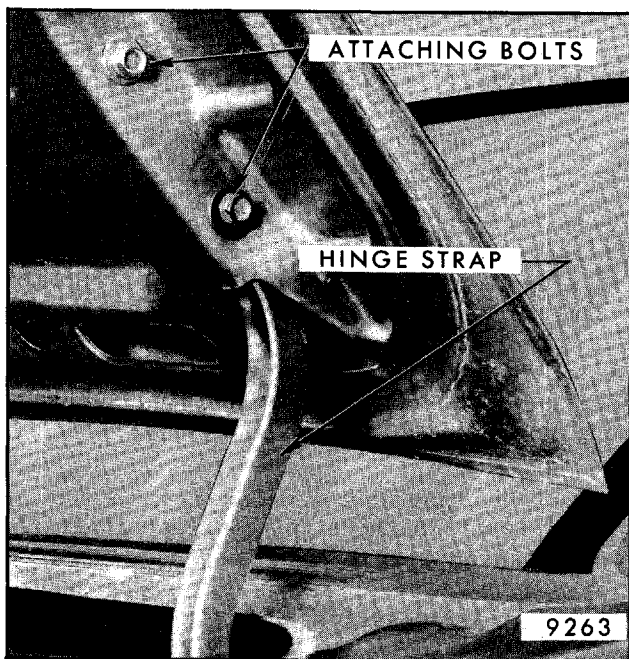
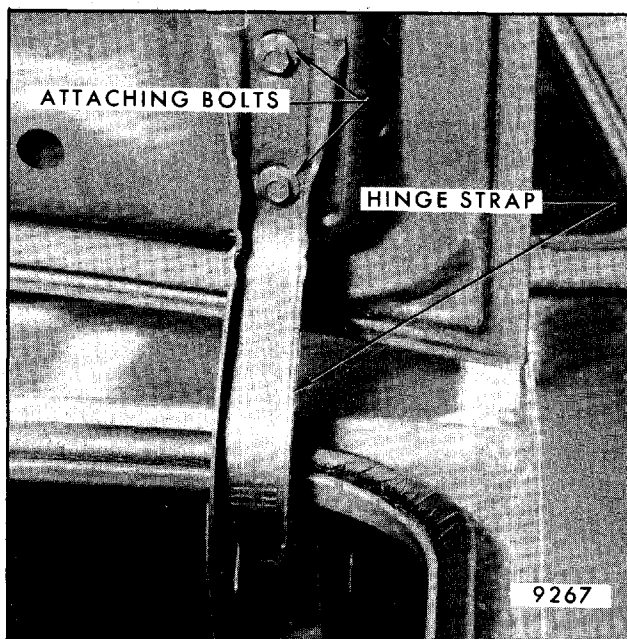

Fig. 7-2 - "B, C" Hinge to Lid Attachment
Fig. 7-4 - "A" Style Rear Compartment Hinge to Lid Attachment
1. Fore, aft and lateral adjustment of the lid assembly is controlled by the hinge strap to lid attaching bolts. To adjust lid, loosen hinge strap to lid attaching bolts (Fig. 7-4) and shift lid to desired position; then tighten bolts. All adjustments for the "B, C" styles are made at lid to hinge attachment locations (Fig. 7-2).
4. With aid of helper, remove attaching bolts securing hinges to lid and remove lid (Fig. 7-4 depicts typical "A" body hinge. Fig. 7-2 depicts typical "B, C" hinge).